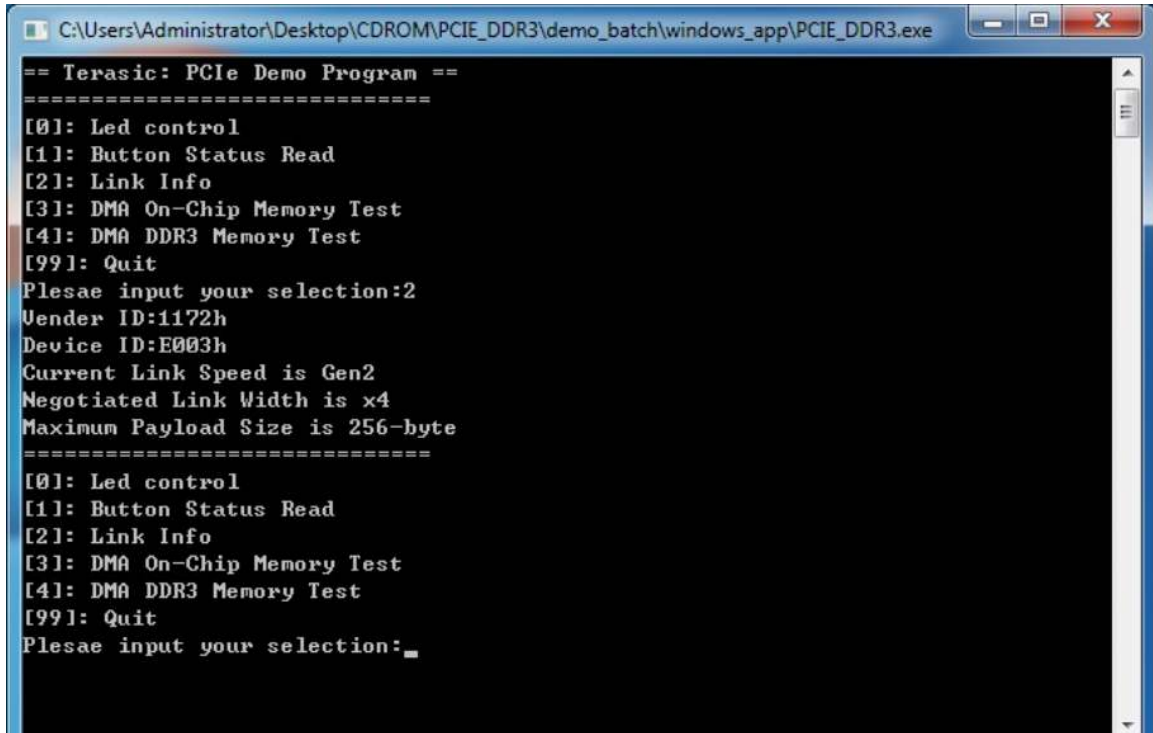

Figure 7-17 Screenshot of Link Info
8. Type 2 followed by the ENTER key to select Link Info item. The PCIe link information will be shown as in **Figure 7-17**. Gen2 link speed and x4 link width are expected.